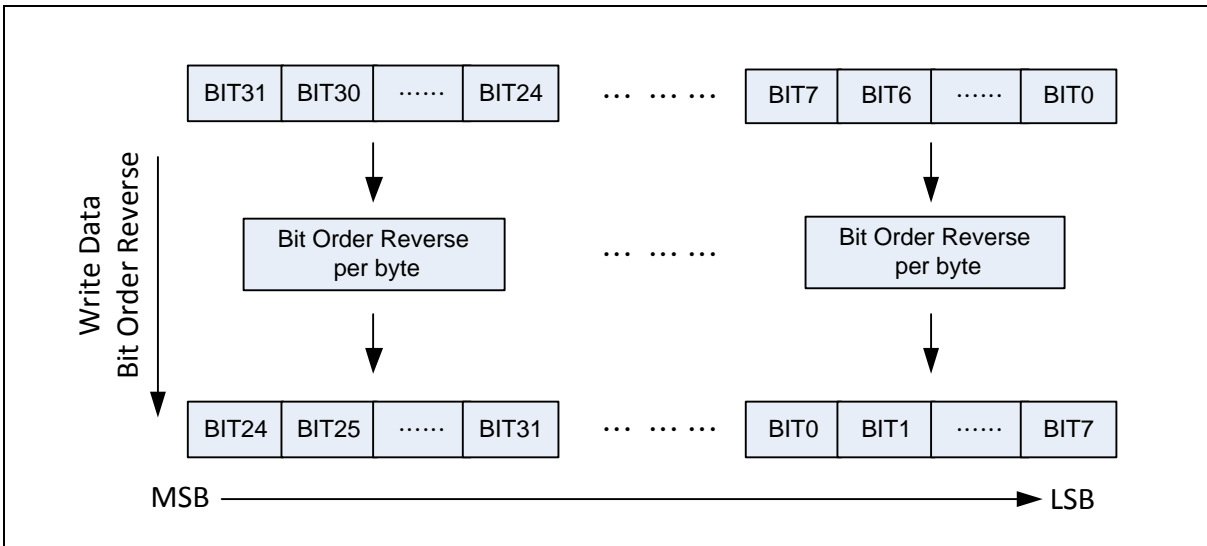

Figure 6.34-3 Write Data Bit Order Reverse Functional Block
- 4) Configure bit order reverse for CRC write data per byte by setting DATREV (CRC\_CTL[24] Write Data Bit Order Reverse). The functional block is also shown in Figure 6.34-3.